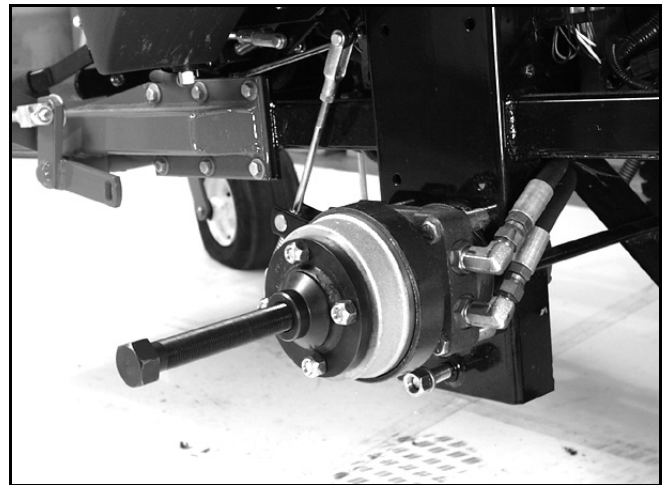

Figure 68
6. Install the special puller on to the hub and tighten the forcing screw until the hub is free of the wheel motor output shaft (Figure 68).